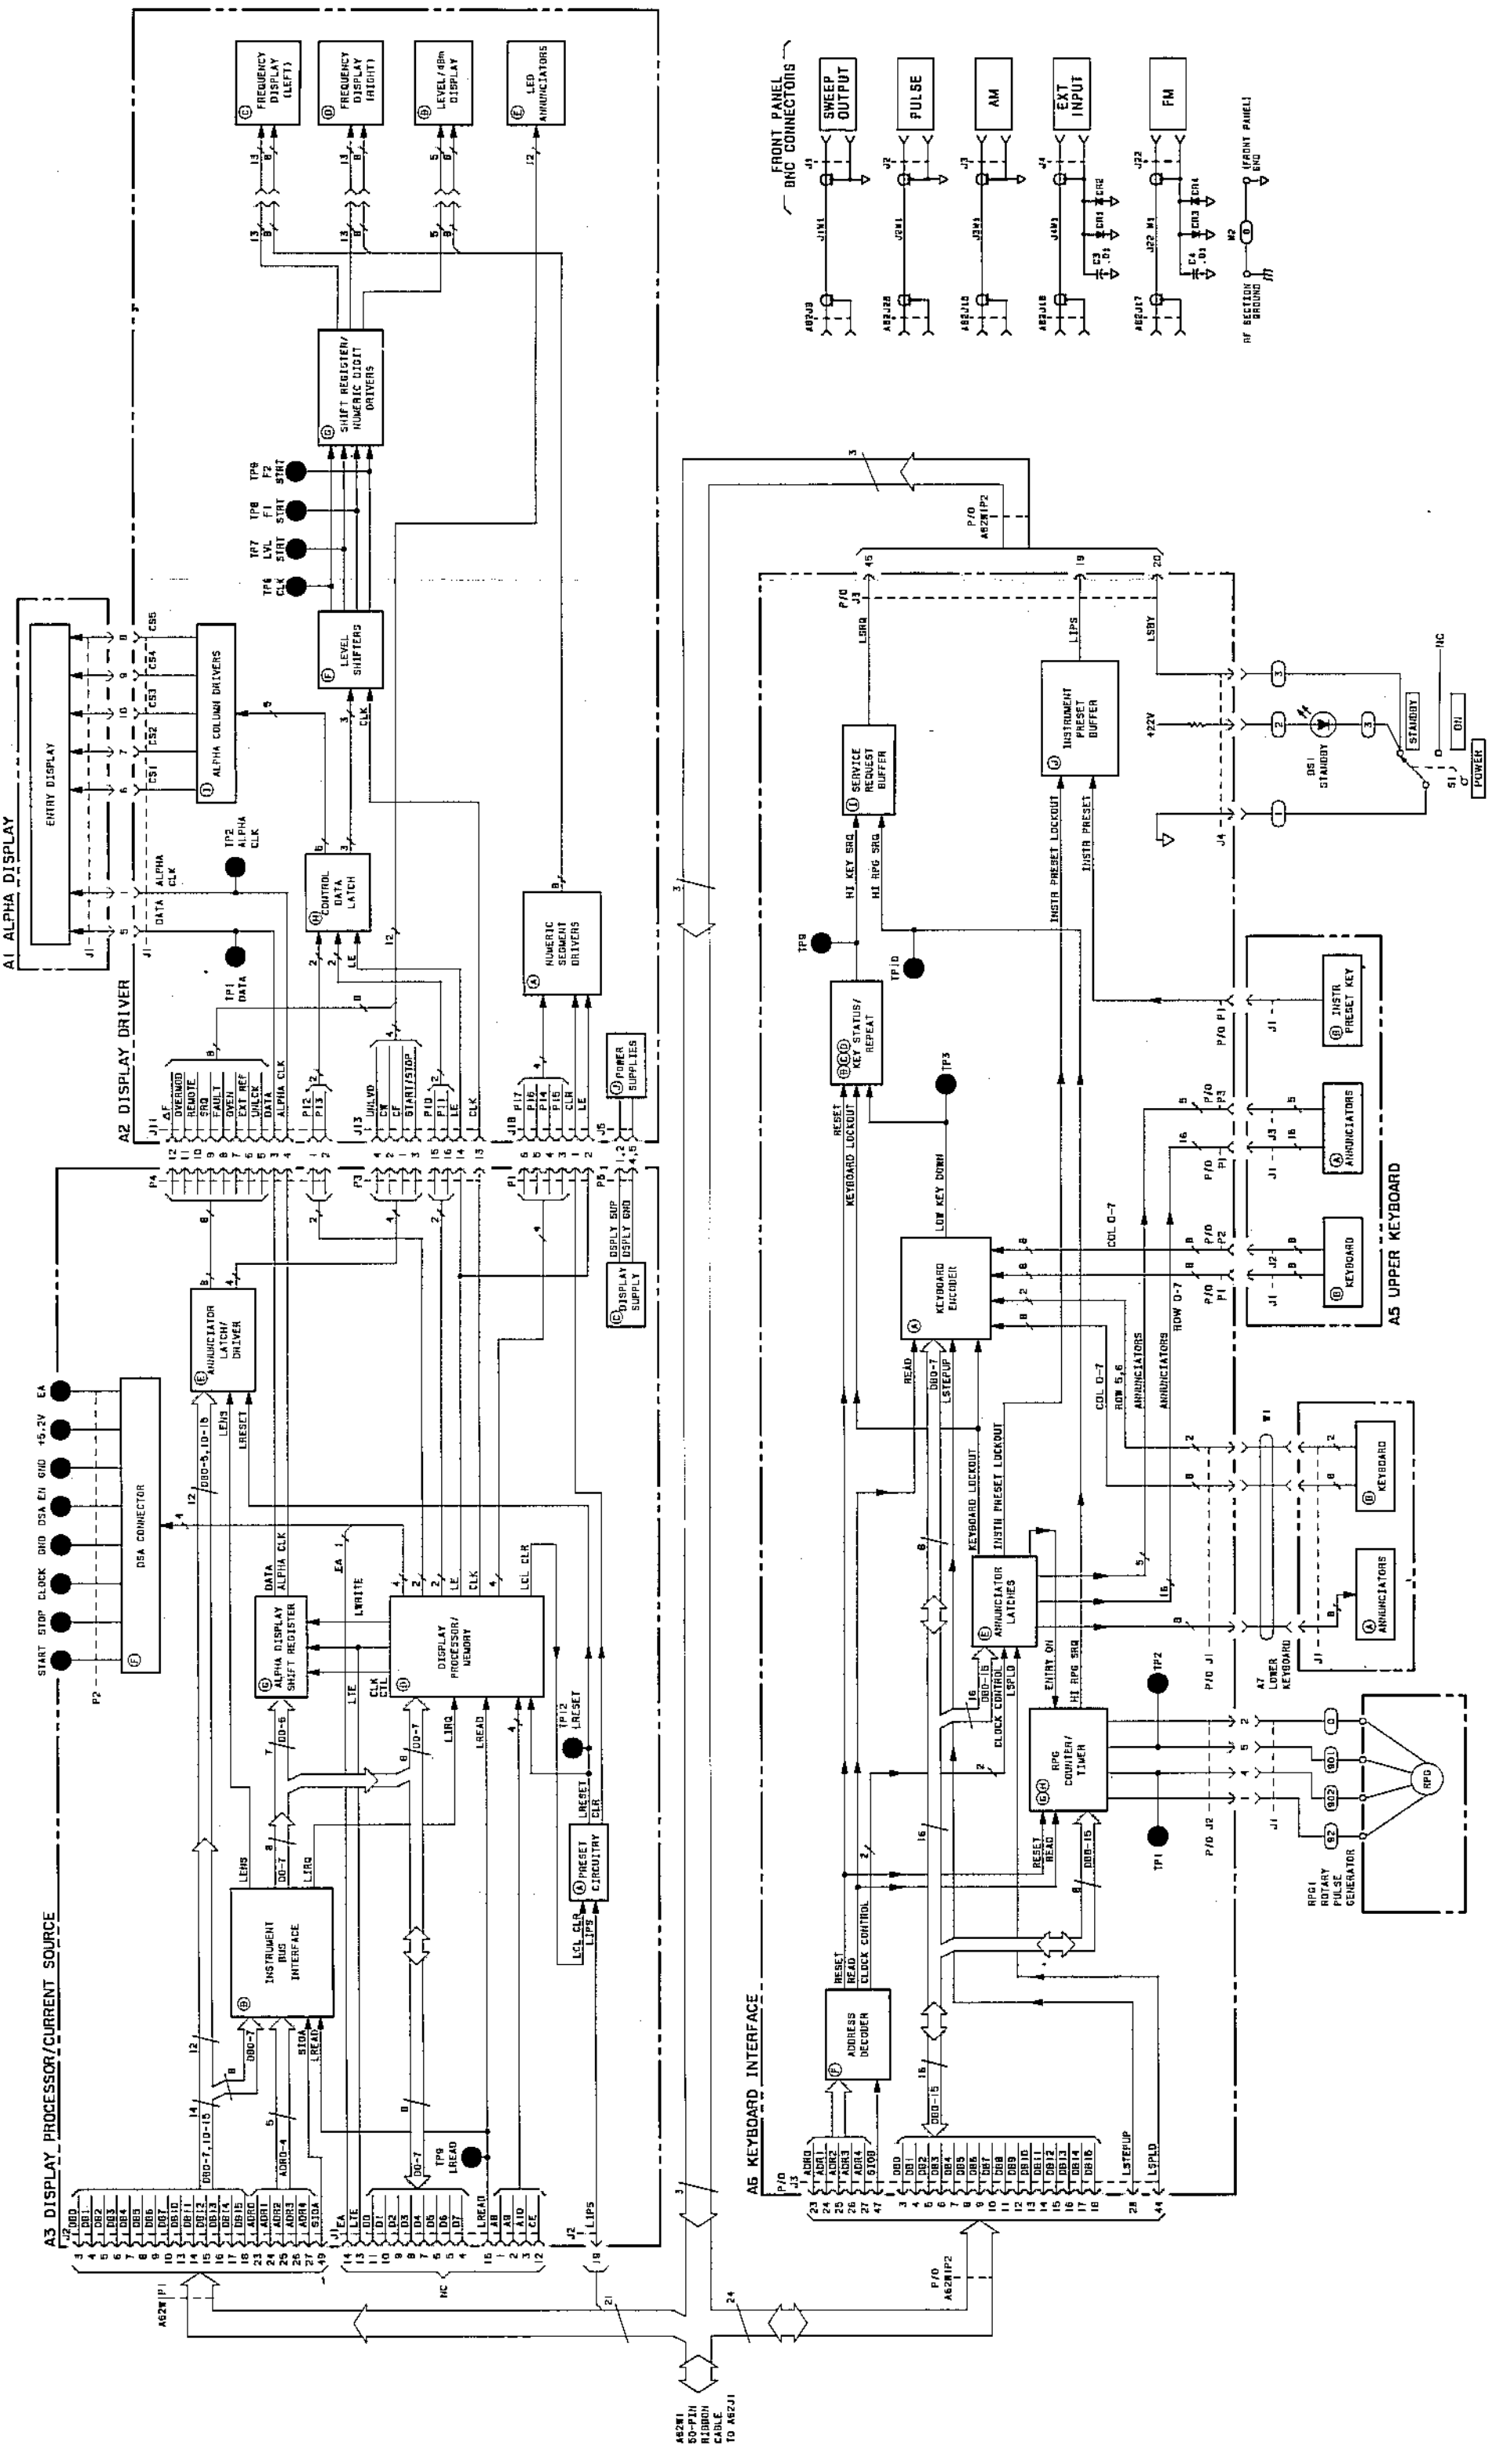

Figure G-2. Front Panel Block Diagram G-13/G-14
4. If any LED or annunciator fails to light, use Figure G-2 to identify the appropriate assembly.